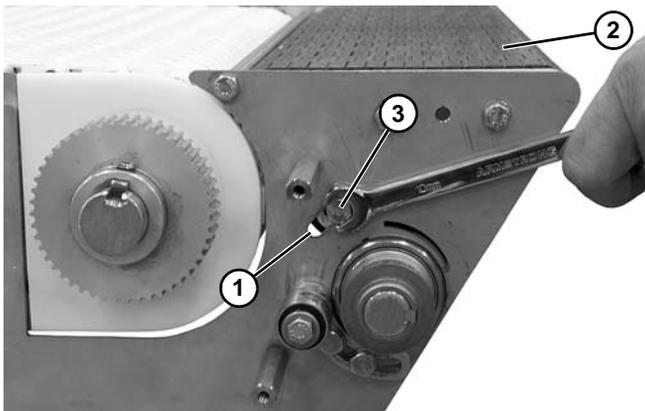

Figure 75
10. Slide idler assembly within slot (Figure 75, item 1) to remove excess slack from belt (Figure 75, item 2). Tighten hex head screws (Figure 75, item 3).